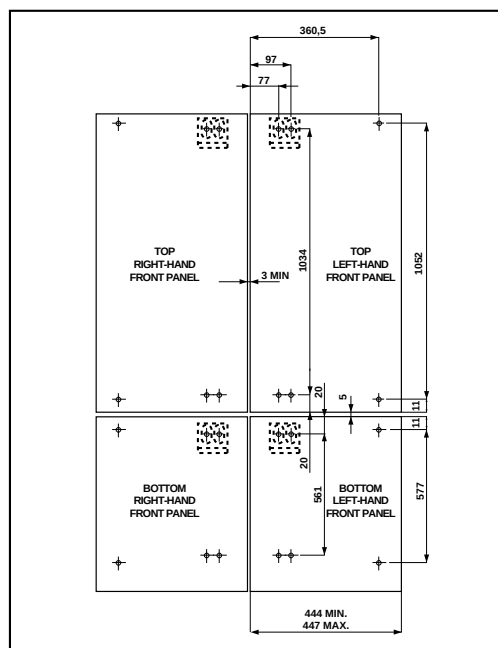

Fig. 5
- Drill the door panels as shown in the diagram and fit the guide blocks (Fig. 5).